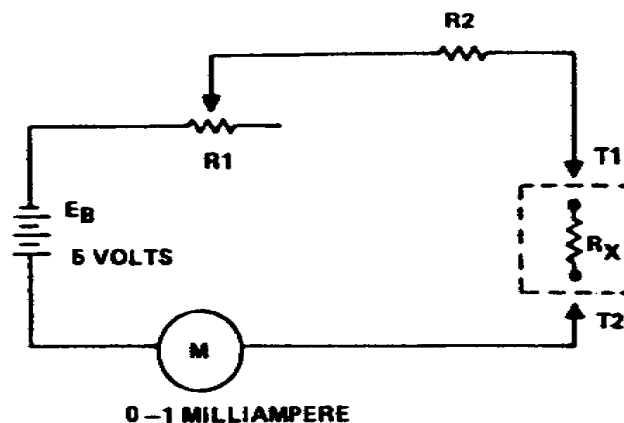

Figure 1-17. Typical ohmmeter scale
5. Ohmmeter. Despite its usefulness as a resistance-measuring device, the ohmmeter is comparatively inaccurate. It is used only where resistance measurements need not be extremely accurate. A good rule to remember when you are using an ohmmeter, such as shown in Figure 1-17, is that the highest reading that can be obtained with acceptable accuracy is approximately ten times the mid-scale reading, and the lowest reading is approximately one-tenth of the mid-scale reading.
c. For mid-scale reading, the size of Rx (fig 1-17) between terminals T1 and T2 must be of a value to limit current to 0.5 milliampere. Thus the total resistance of the circuit of half-scale deflection is 10,000 ohms.